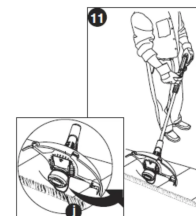

Figure 11
- If desired, pull the wire edge guide (j) out from the motor housing until it clicks into the locked position as shown in figure 11 and position the trimmer above the surface as shown in figure 11.